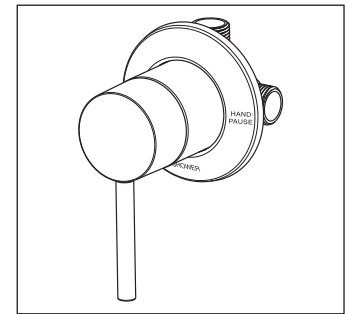
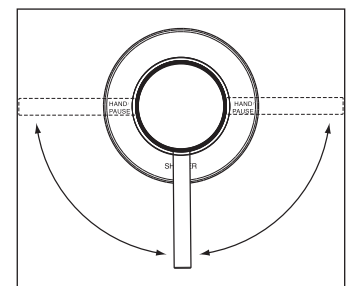

Figure 1
Figure 2
The 763-CP (see Figure 1) is a three-position valve. Positioning the handle in the vertical, center position sends water to the shower head. To transfer water to the hand shower, rotate the handle 90 degrees clockwise or counter-clockwise, depending on the position of the hand shower. If the piping to the hand shower is connected to the right of the transfer valve, the left-hand outlet of the transfer valve must be capped and sealed to prevent water leakage. If connecting the hand shower to the left-hand side of the valve, be sure to cap the right-hand outlet. In either case, only one position on the valve will direct water to the hand shower; the other position may be used as a "pause" position for soaping or shampooing. Figure 2 illustrates the handle positions. Figure 4 shows the valve outlets, cap, and washer.
- The handle is designed to rotate at 90 degrees in a clockwise and counter-clockwise movement. Rotate the handle in the counter-clockwise direction to verify that the handle stops near the position of the "HAND/PAUSE" on the right of the escutcheon plate. Then rotate the handle in the clockwise direction to verify that the handle stops at the "HAND/PAUSE" location on the left of the escutcheon plate (see Figure 2).